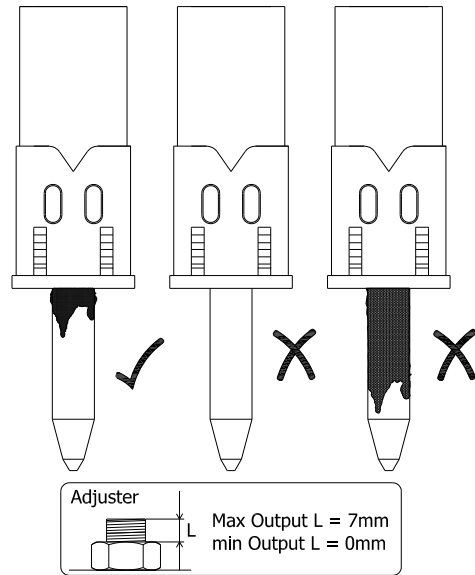

Fig. 5-19 Delivery Adjustment Set – OK ✓
5. Operate breaker. Make adjustments to delivery output as necessary (Fig. 5-19)
Keep the tool shank well lubricated during breaker operation. Actively monitor tool for sufficient lubrication. Figure 5-19.
Delivery output is not pre-set. Adjusting may take several attempts to reach the satisfactory delivery. When properly set, a fresh discharge of lubricant maintains a wet coating that is visible on the tool shank while working – without waste. Refer to Figure 5-19.
Actively monitor the tool for sufficient lubrication. A wet coating of lubricant must be clearly visible on the tool shank at all times when working. Refer to Fig. 5-19.